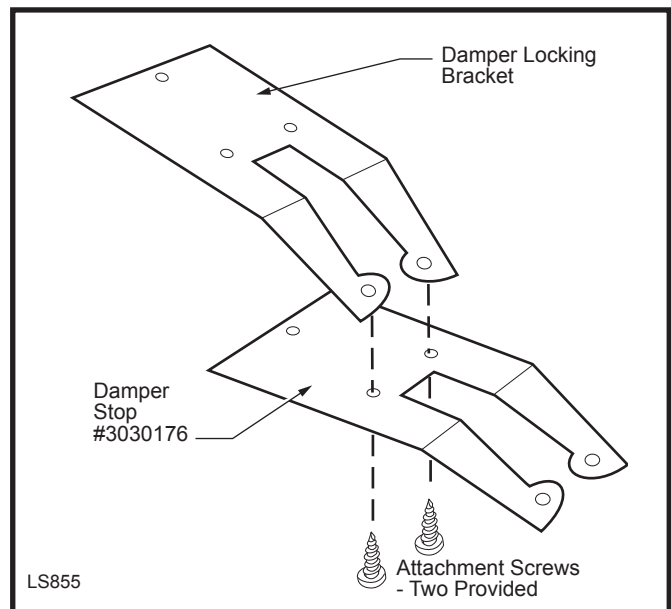

Fig. 6 Attach the damper stop.
3. Align the two slots on either side of the cutout on the damper stop with the two small holes on the angled portion of the damper locking bracket. Attach the damper stop with the screws provided. (Fig. 6)